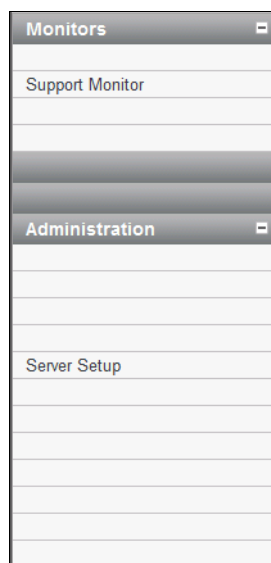

Figure 14-21 Console navigation bar
3. The navigation bar (Figure 14-21) on the left hand side of the console window allows you to select either the Support Monitor view or the Server Setup view.